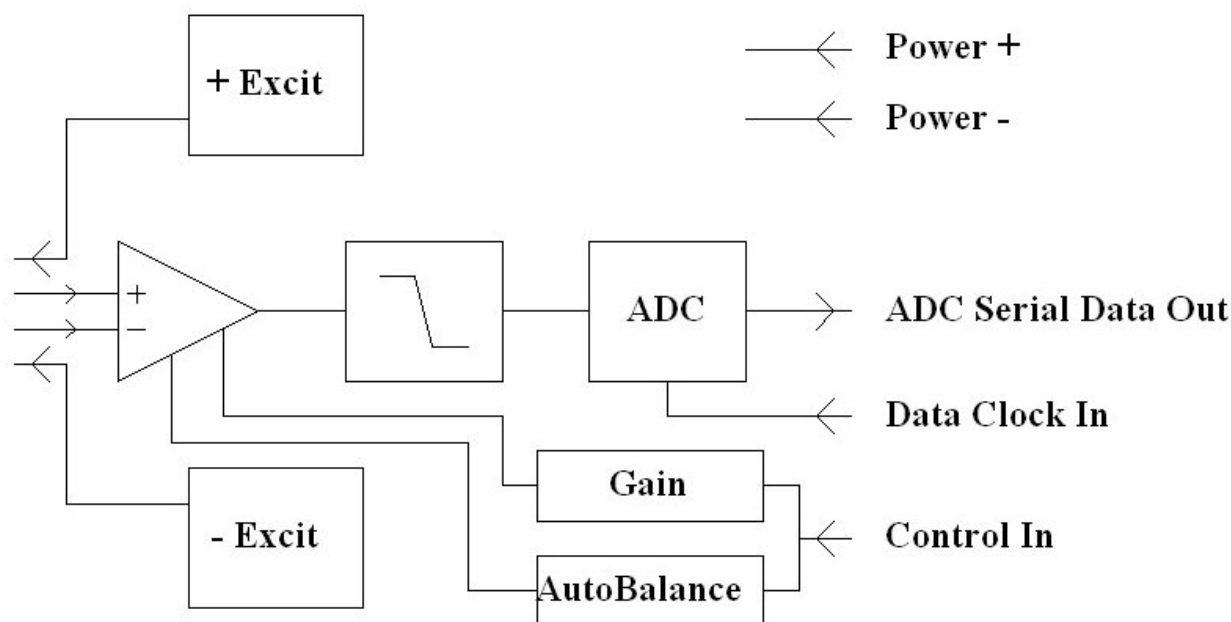

Figure A-7. Channel block diagram.
a. All 60 channels in the D4D are identical. The design of the D4D is inherently simple to allow fitting this many channels into a small space, to reduce the power consumption so that battery operation is practical, and to keep the cost down. Figure A-7 is a block diagram of a channel.